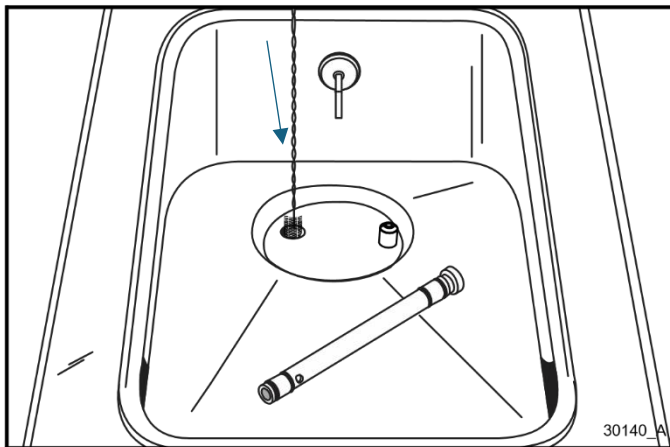

Figure 32
4. While solution is flowing into the freezing cylinder, brush-clean the mix hopper making sure to brush the mix level sensing probe, the mix inlet hole, and the feed tube. (Figure 32)